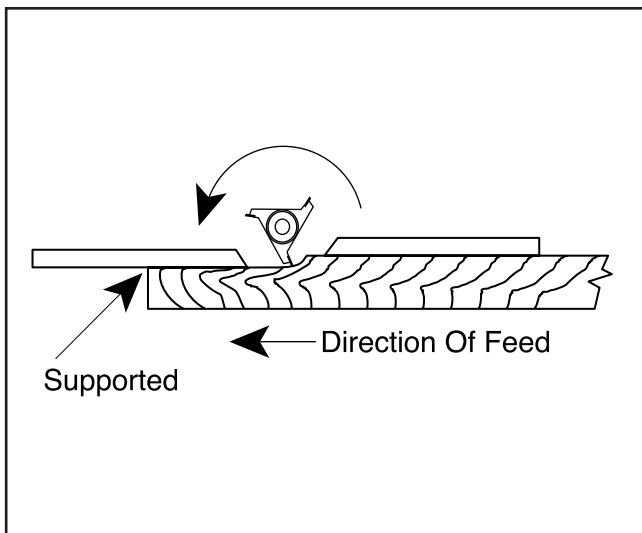

Figure 21. Fence adjusted to support workpiece.
6. Once the shaper is turned off and the cutter has come to a complete stop, adjust the outfeed fence to support the new profiled edge as shown in **Figure 21**.